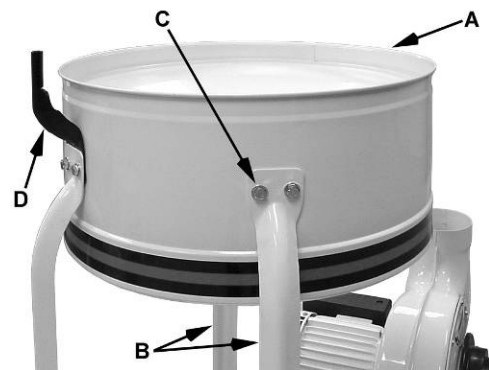
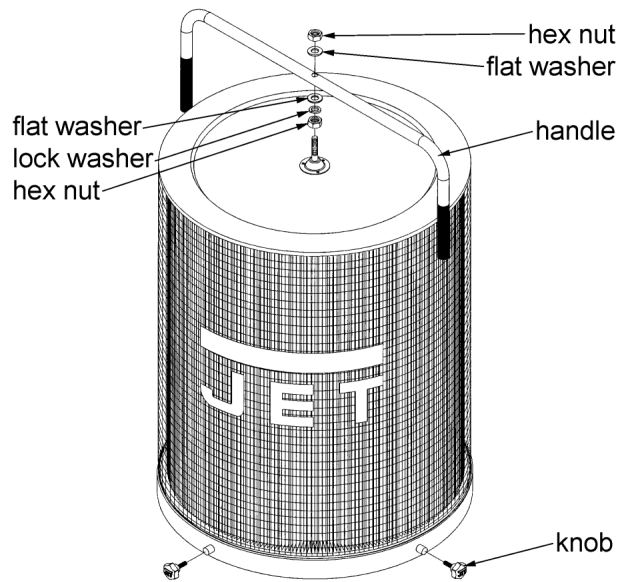

Figure 5
Figure 9
- Install the *housing* (A, Fig. 5) to two *support legs* (B, Fig. 5) using four M8 x 16 hex cap bolts, eight M8 flat washers, and four M8 hex nuts (C, Fig. 5). Be sure hose opening faces fan housing.
Note: For models DC-1200BK or DC-1200-3BK only – Before attaching third support bracket place the *hanger bracket* (D, Fig.5) between the support bracket and the housing.
1. Mount the handle onto the canister filter with two M10 hex nuts, two M10 flat washers, and a M10 lock washer (Figure 9).
2. Mount the canister filter on top of the *collector housing* (A, Fig. 5) and tighten the knobs on the *canister filter* (Figure 9).